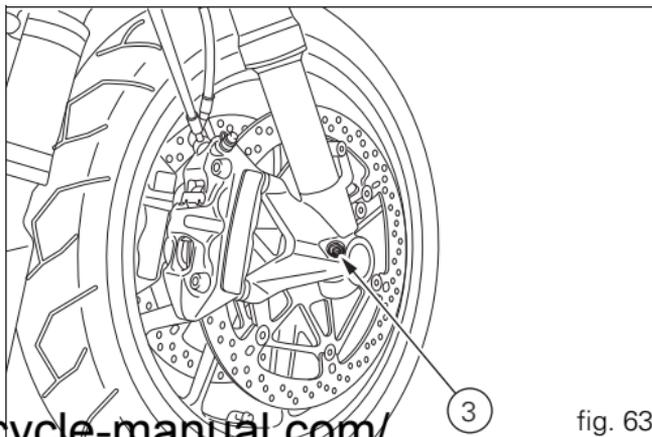

fig. 63
- 3) to adjust the compression damping (fig. 63).